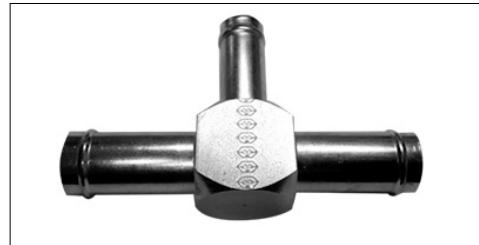

Figure 21: 3/4" x 3/4" x 5/8" tee, P/N 103430DAV
**Step 1:** Using heater hose pliers, clamp off both sides of the intended tee location. Cut the 3/4" ID hose. Install a 3/4" x 3/4" x 5/8" tee (Figure 21) into the cab heater return hose.